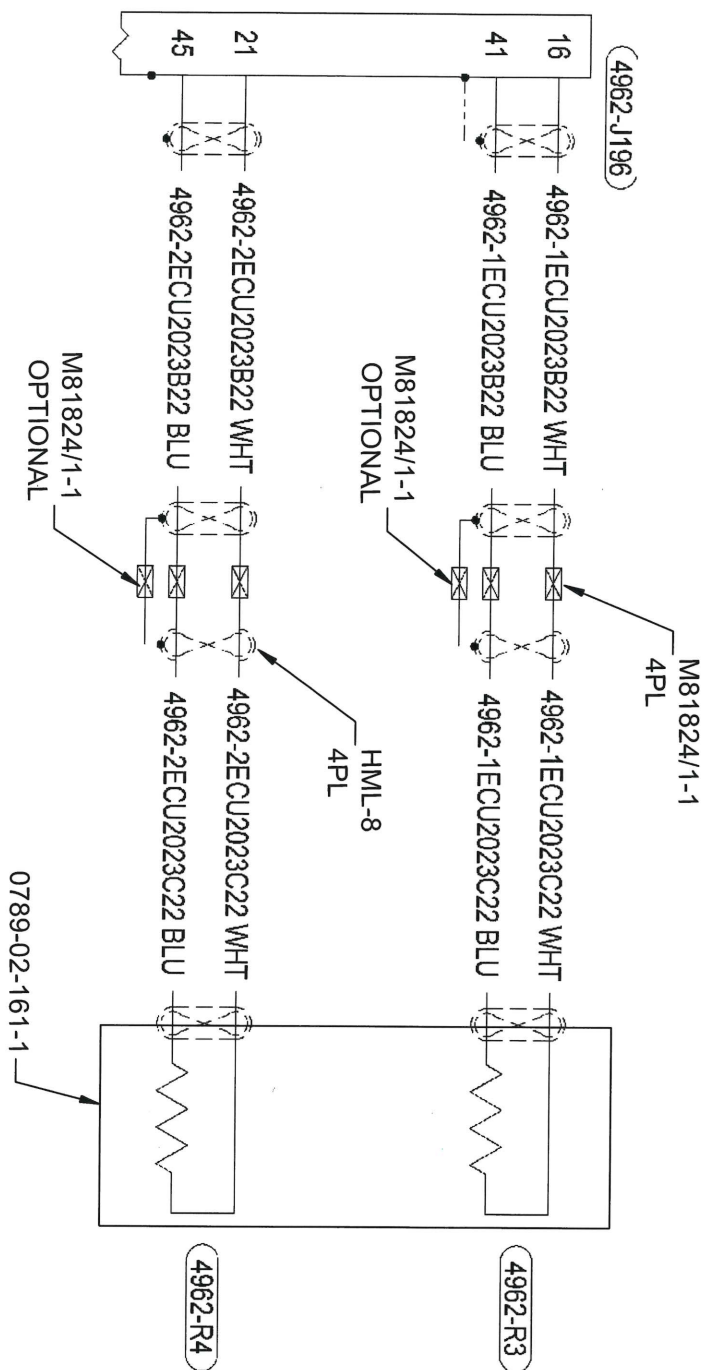

FIGURE 4: WIRING DIAGRAM
8. Install the HML-8 solder sleeves on the shield. It is permissible to remove one of the wire "tail" as required to ensure shield continuity. Alternatively both wires can be installed and spliced or soldered together, as shown in Figure 4.
9. Using the red M81824/1-1 splice, connect 4962-1ECU2023B22 WHT to 4962-1ECU2023C22 WHT and 4962-1ECU2023B22 BLU to 4962-1ECU2023C22 BLU, as shown in Figure 4.
11. Install the HML-8 solder sleeves on the shield. It is permissible to remove one of the wire "tail" as required to ensure shield continuity. Alternatively both wires can be installed and spliced or soldered together, as shown in Figure 4.
12. Using the red M81824/1-1 splice, connect 4962-2ECU2023B22 WHT to 4962-2ECU2023C22 WHT and 4962-2ECU2023B22 BLU to 4962-2ECU2023C22 BLU, as shown in Figure 4.